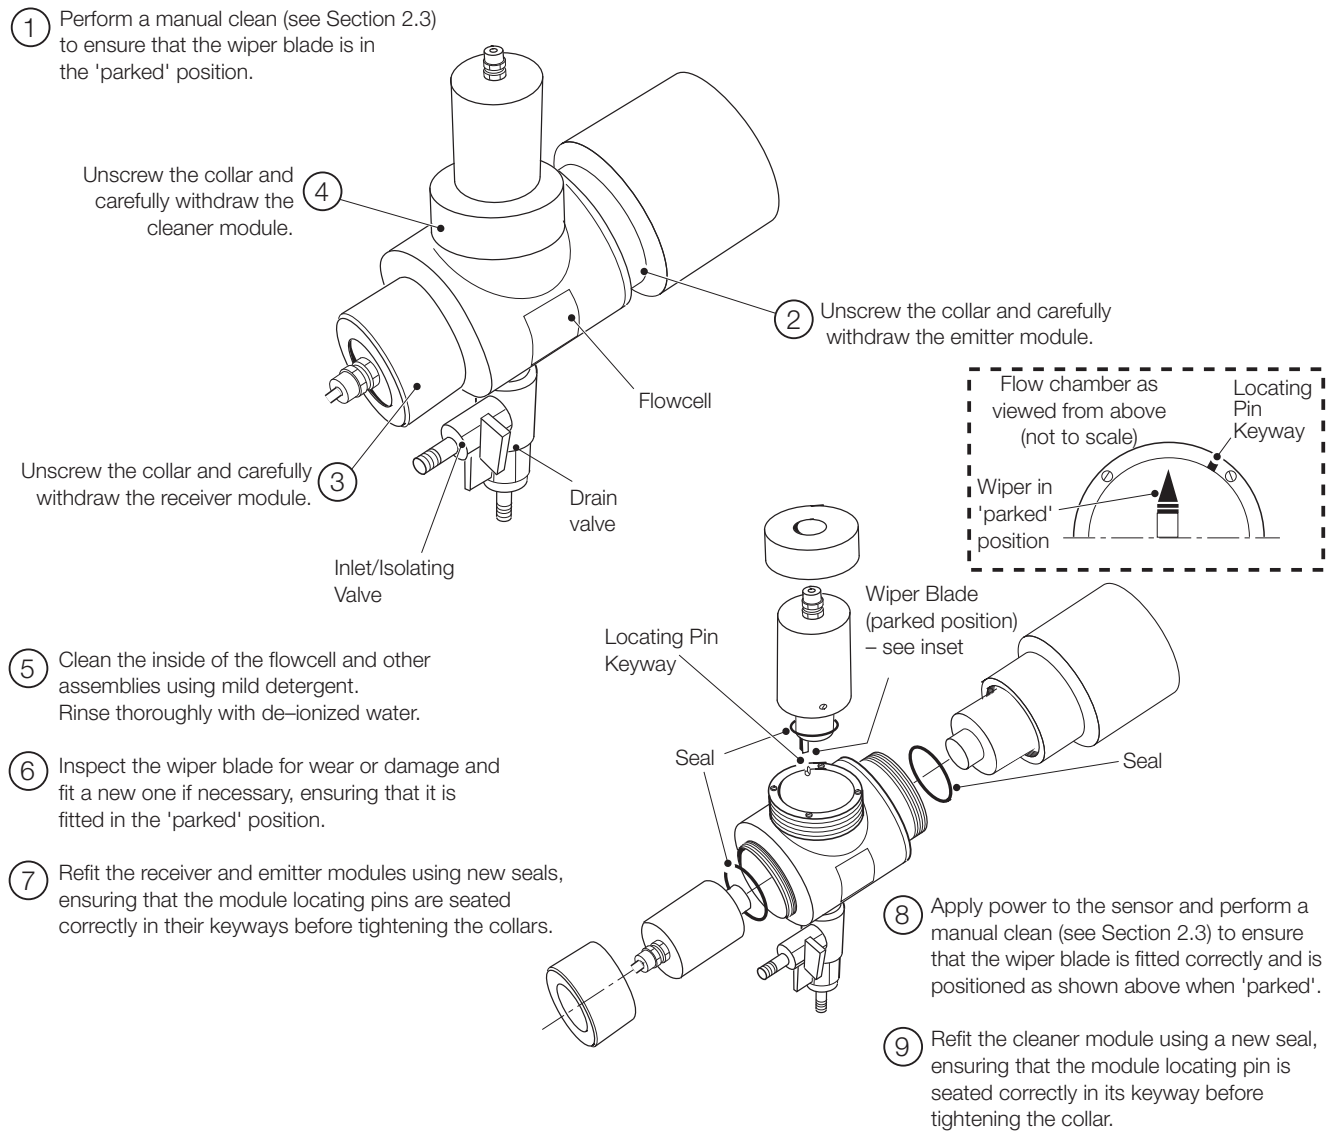

Fig. 8.1 7320 100 Low Range Sensor – Dismantling and Cleaning
### 8.2.1 Dismantling and Cleaning – Figs. 8.1 to 8.4
## ...8.2.1 Dismantling and Cleaning – Figs. 8.1 to 8.4
...8.2.1 Dismantling and Cleaning – Figs. 8.1 to 8.4
- 3) Refer to Fig. 8.1 (7320 100 Low Ranger Sensor) or Fig. 8.2 (7320 200 High Range Sensor) and remove the emitter and receiver modules.
- 4) Refer to Fig. 8.1 (7320 100 Low Ranger Sensor) or Fig. 8.2 (7320 200 High Range Sensor) and fit the new modules.